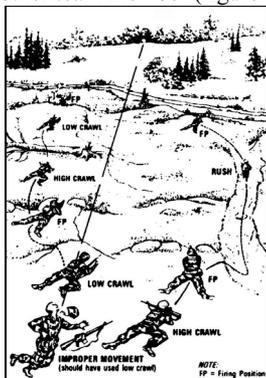

Figure 071-326-0502-1. Select route
1. Select an individual movement route that adheres to any instructions provide by your team leader, minimizes your exposure to enemy fire, and does not require you to cross in front of another team member (figure 071-326-0502-1).